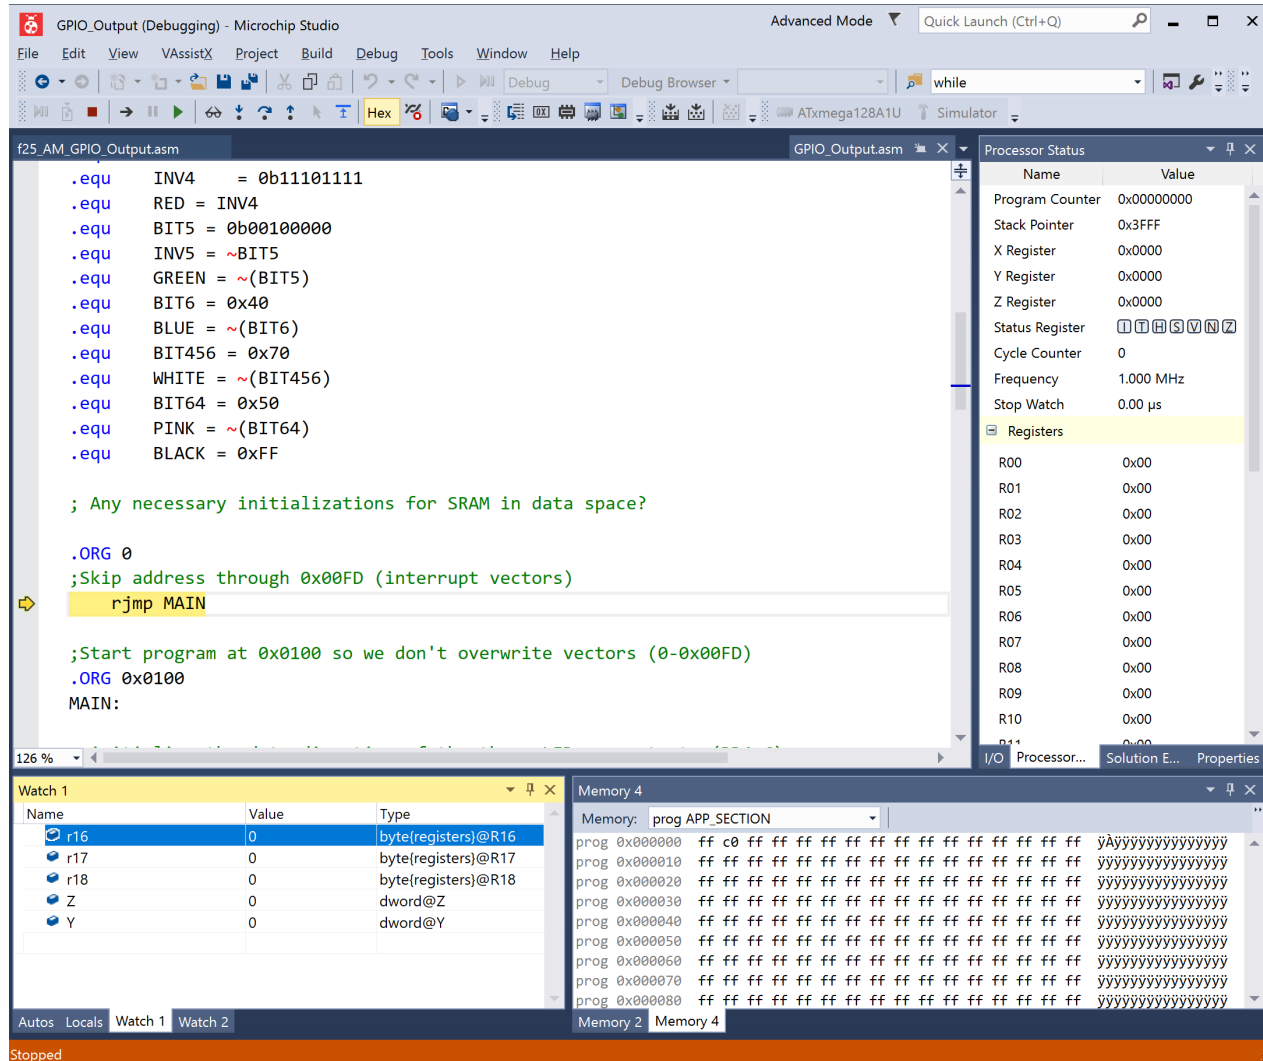

Figure 15: Standard Debug View.
9. Figure 15 shows a standard debug view with the four generally most useful (and the default) windows shown: *Program File*, *Processor Status*, *Watch*, and *Memory*.